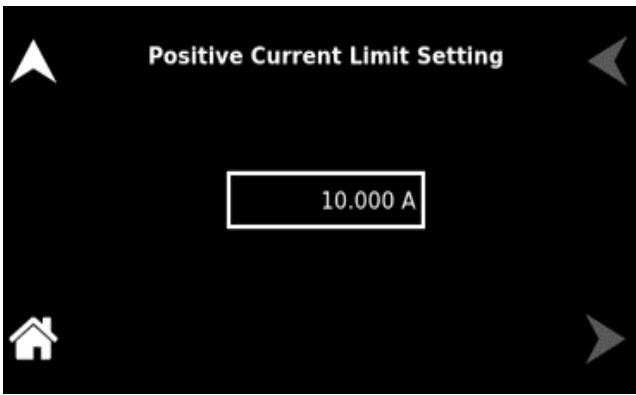

Figure 8-18. Positive Current limit setting screen
**Pos. Current Limit** User can set a positive current value, which functions as a trip limit (CV and CV/CP), or it regulates (CV/CC) the output upon reaching the Positive Current Limit. Refer to Figure 8-18.